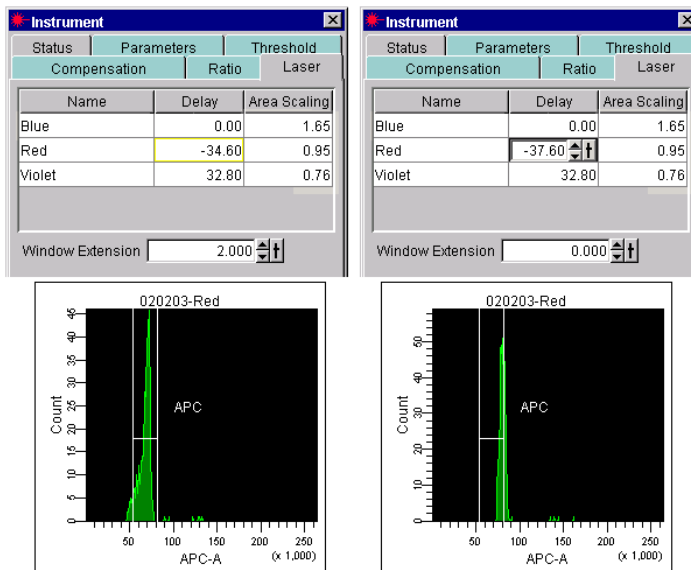

Figure 4-5 Second laser delay before (left) and after (right) adjustment
- Adjust the red laser Delay setting in increments of 0.1 to obtain the highest mean channel for the fluorescent populations (Figure 4-5 on page 119).